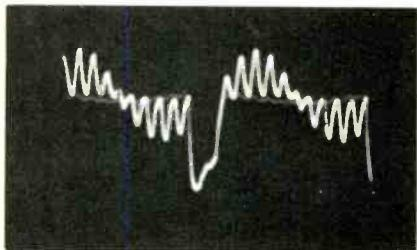

Fig. 1 Display on ordinary service scope connected to red grid of CRT. Phase is adjusted till sixth bar is right on base line.
one of two ways: (1) On the picture-tube screen. With the blue and green guns disabled and a keyed-rainbow signal fed to the receiver, you adjust phase until the sixth color bar is of the same brightness as the spaces on either side of it. Then, with green and red disabled, you make sure the third bar is the same brightness as those beside it. (2) On a service scope connected to the red grid terminal of the CRT. You adjust phase until the sixth visible pip (Fig. 1) is at the zero line of the scope display and the third is at maximum amplitude. The ninth pip should also be at maximum, but in the opposite direction from the third bar.